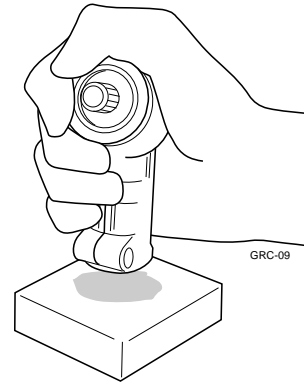

Figure 11.19 Removing the 250 pinion gear.
- STEP 2.** Pre-heat the gearcase to approximately 212°F (100°C) with a heat gun. Then remove the drive pinion and bearing seat from the gearcase by tapping the input end of the gearcase sharply against a flat wooden surface (Figure 11.19).